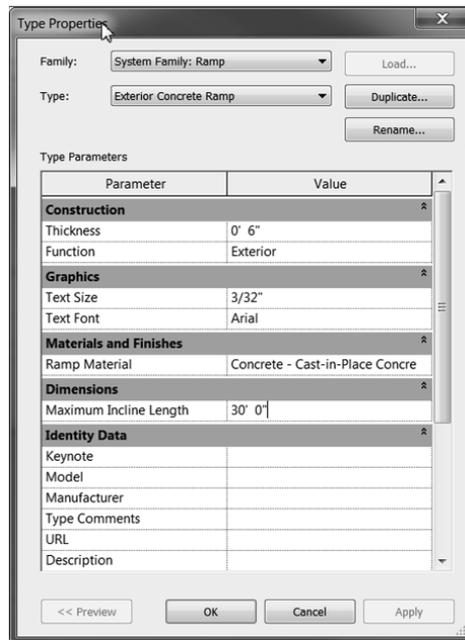

FIGURE 10.80: Modifying the Type Properties
8. For the ramp material, click the [...] button, and specify **Concrete – Cast-In-Place Concrete**, as shown in Figure 10.80.